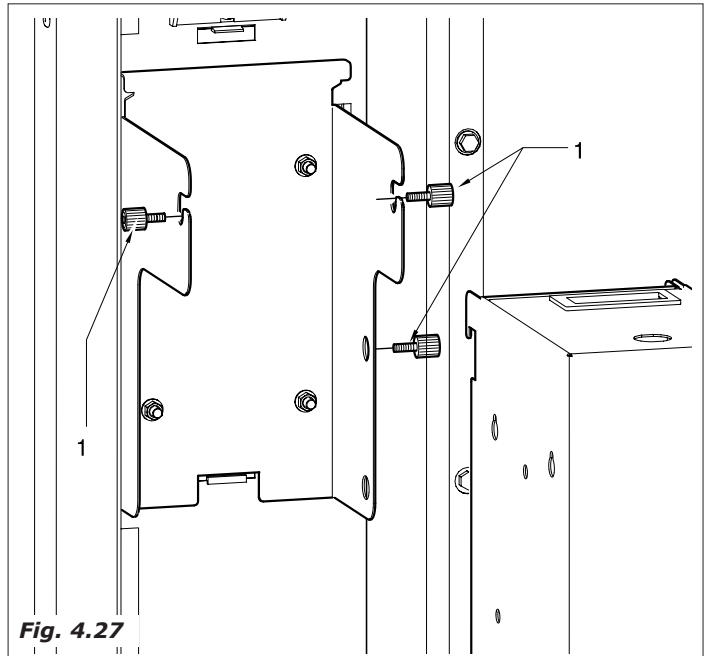

Fig. 4.27
- fix the support with the 3 knobs (Fig.4.27-pos.1).